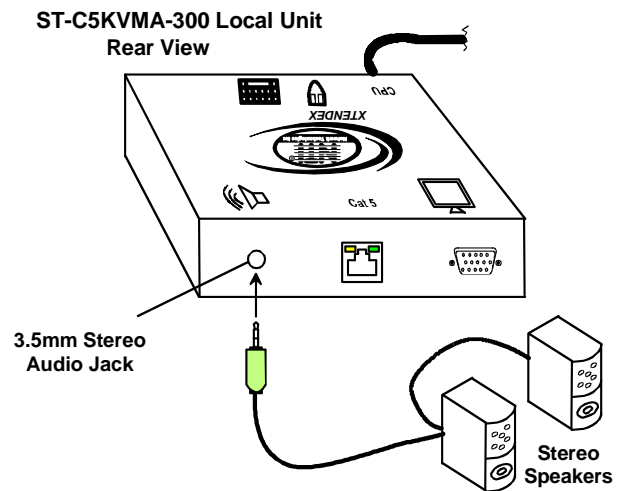

Figure 6- Connect speakers to Local Unit with audio support
- d) If the Local Unit has audio support, connect the cable from the local speakers to the 3.5mm stereo audio jack on the Local Unit. (See Figure 6)